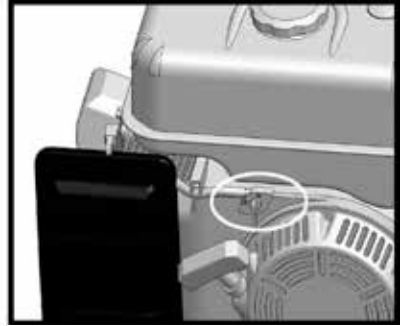

Fig. 2 - Fuel cock
7. Open the fuel cock (fig. 2).